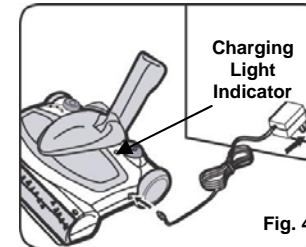

Fig. 4
1. Connect the charger plug to the charging jack or hole on the side of the sweeper. Plug the charging adapter into the wall outlet. (120V., 60Hz.) Use only **charger Kuantech KA12D090015023U**. (Fig. 4)